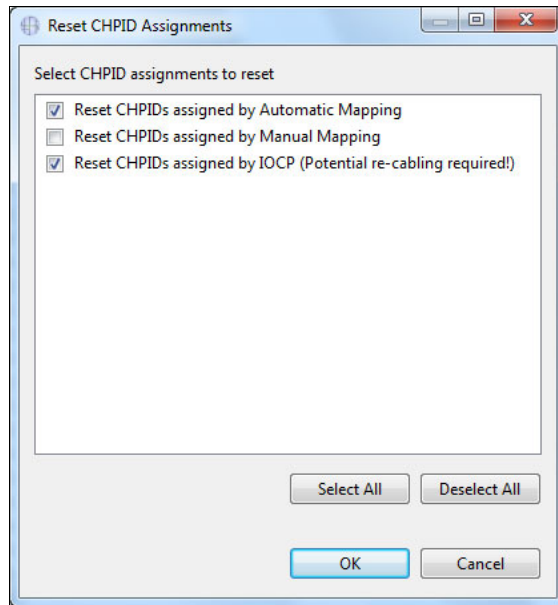

Figure 5-87 CMT - Reset CHPID Assignments
2. The Reset CHPID Assignments window opens with Reset choices (Figure 5-87 on page 224). For the example, select the following two options and then click **OK**: